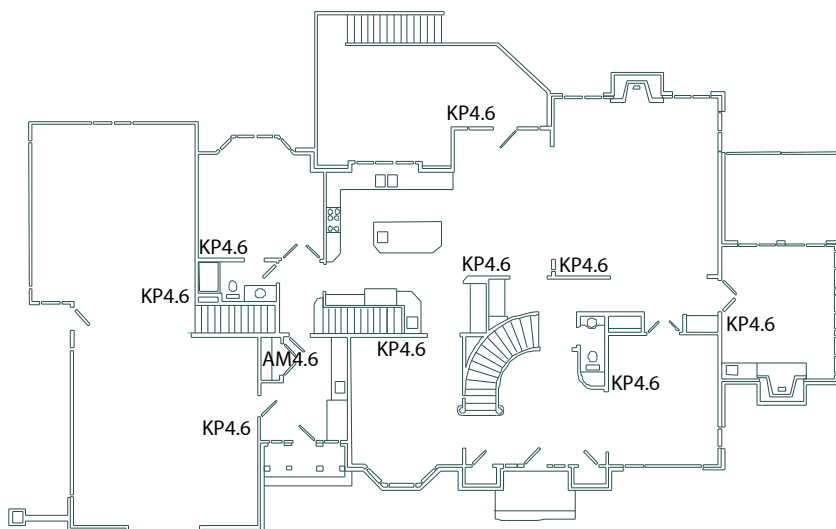

Fig. 1
1. Locate the AM4.6 and source components in a convenient location with adequate ventilation such as a closet, utility room, cabinet or other. Fig.1.
Each zone is controlled by a KP4.6 wall unit. They should be located in a convenient location in each zone. Fig. 1.